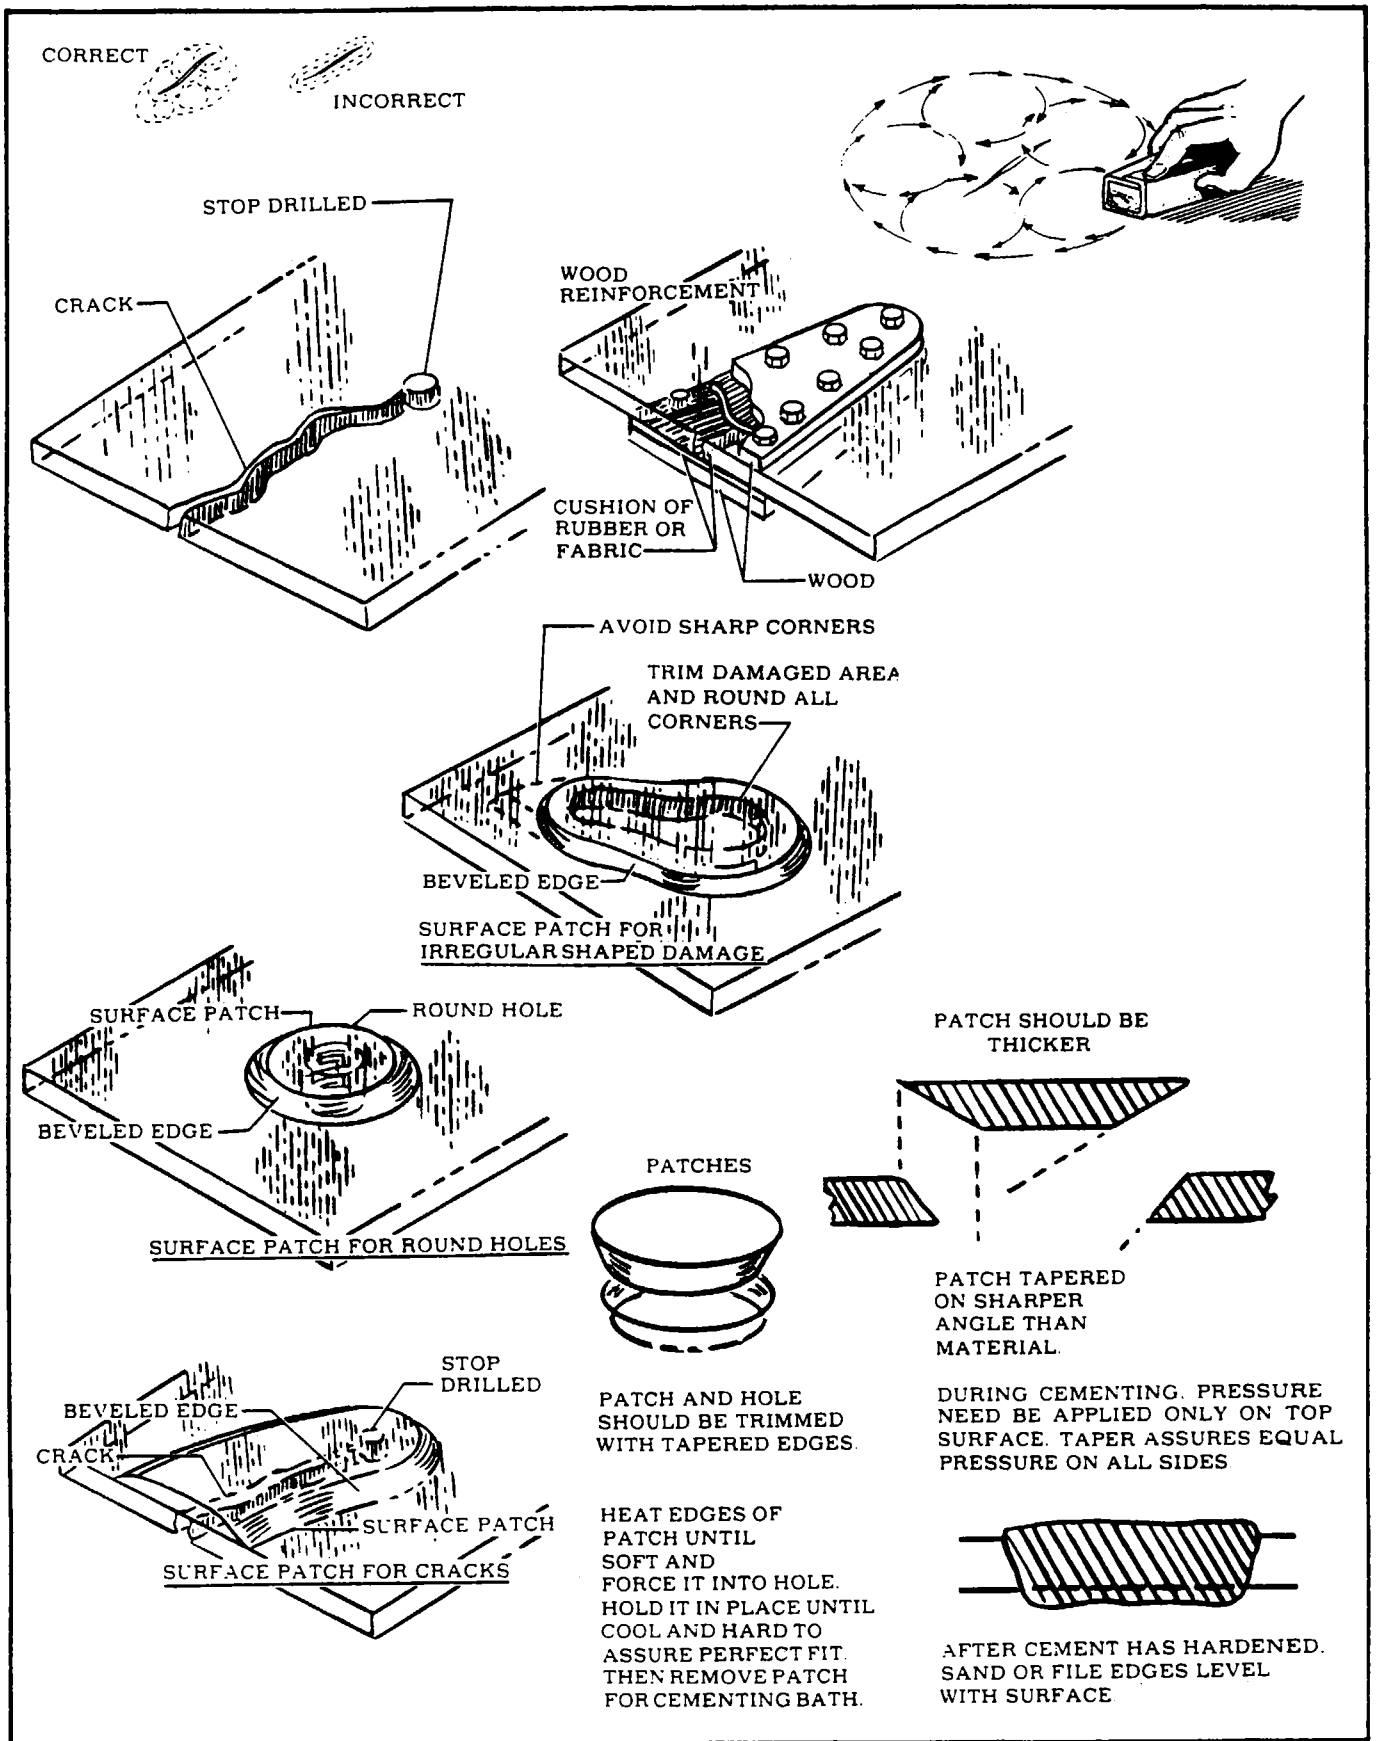

Figure 3-1. Repair of Windshield and Windows
3-22. REPAIR. Replace extensively damaged transparent plastic, rather than repair whenever possible, since even a carefully patched part is not the equal of a new section, either optically or structurally. At the first sign of crack development, drill a small hole at the extreme end of the crack, as shown in figure 3-1. This serves to localize the cracks and also to prevent further splitting by distributing the strain over a large area. If the cracks are small, stopping them with drilled holes will usually suffice until replacement or more permanent repairs can be made. The following repairs are permissible; however, they are not to be located in the pilot's line of vision during landing or normal flight.
a. SURFACE PATCH. If a surface patch is to be installed, trim away the damaged area and round all corners. Cut a piece of plastic of sufficient size to cover the damaged area, and extend at least 3/4-inch on each side of the crack or hole. Bevel the edges, as shown in figure 3-1. If the section to be repaired is curved, shape the patch to the same contour by heating it in an oil bath at a temperature of 248°F to 302°F., or it may be heated on a hot plate until soft. Boiling water should not be used for heating. Coat the patch evenly with plastic solvent adhesive and place immediately over the hole. Maintain a uniform pressure of from 5 to 10 psi on the patch for a minimum of three hours. Allow the patch to dry 24 to 36 hours before sanding or polishing is attempted.
b. PLUG PATCH. In using inserted patches to repair holes in plastic structures, trim the holes to a perfect circle or oval, and bevel the edges slightly. Make the patch slightly thicker than the material being repaired, and similarly, bevel the edges. Install patches in accordance with procedures illustrated in figure 3-1. Heat the plug until soft and press into the hole without cement, and allow to cool in order to make a perfect fit. Remove the plug, coat the edges with adhesive, and then reinsert into the hole. Maintain a firm, light pressure until the cement has set, then sand or file the edges level with the surface; buff and polish to a clear finish.
3-24. CRACKS. (See figure 3-1.)